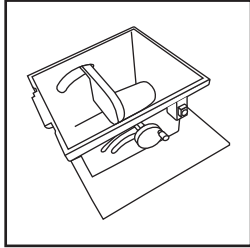

Fig. 1
- Invert the main body of the machine and place on a clean, secure and sturdy workbench or similar (**Fig. 1**).